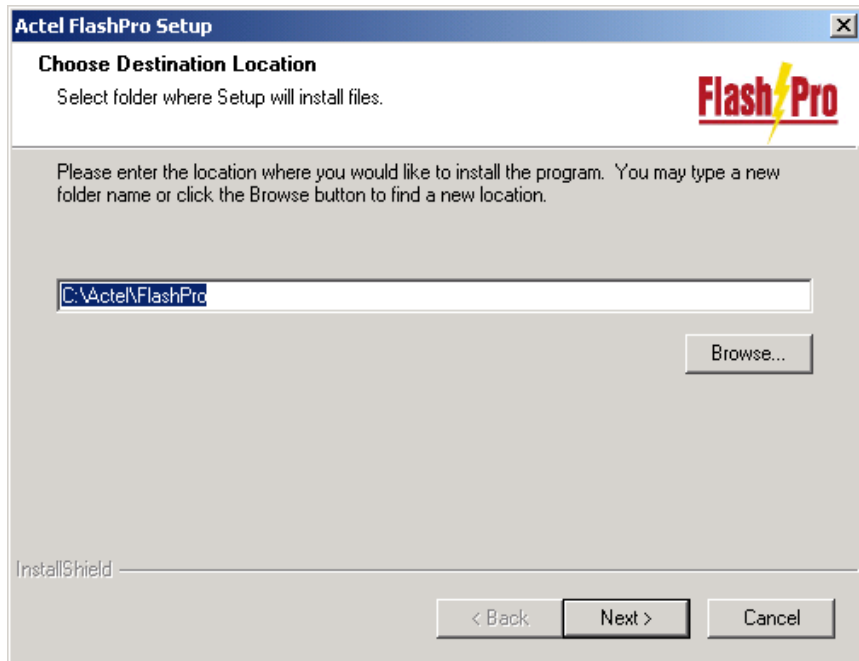

Figure 1-3. FlashPro Destination Location
4. Click *Next* to install FlashPro to the default destination folder, as shown in Figure 1-3. To install to a different folder, click *Browse* and select another folder.